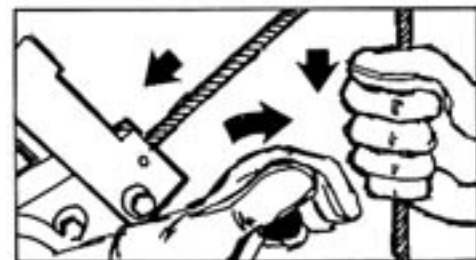

Figure 5
5. While maintaining downward pressure on the cable, activate recovery operation (see Operation Procedures for your system on the following pages) and crank about one foot of cable back into the housing. (See Fig. 5)